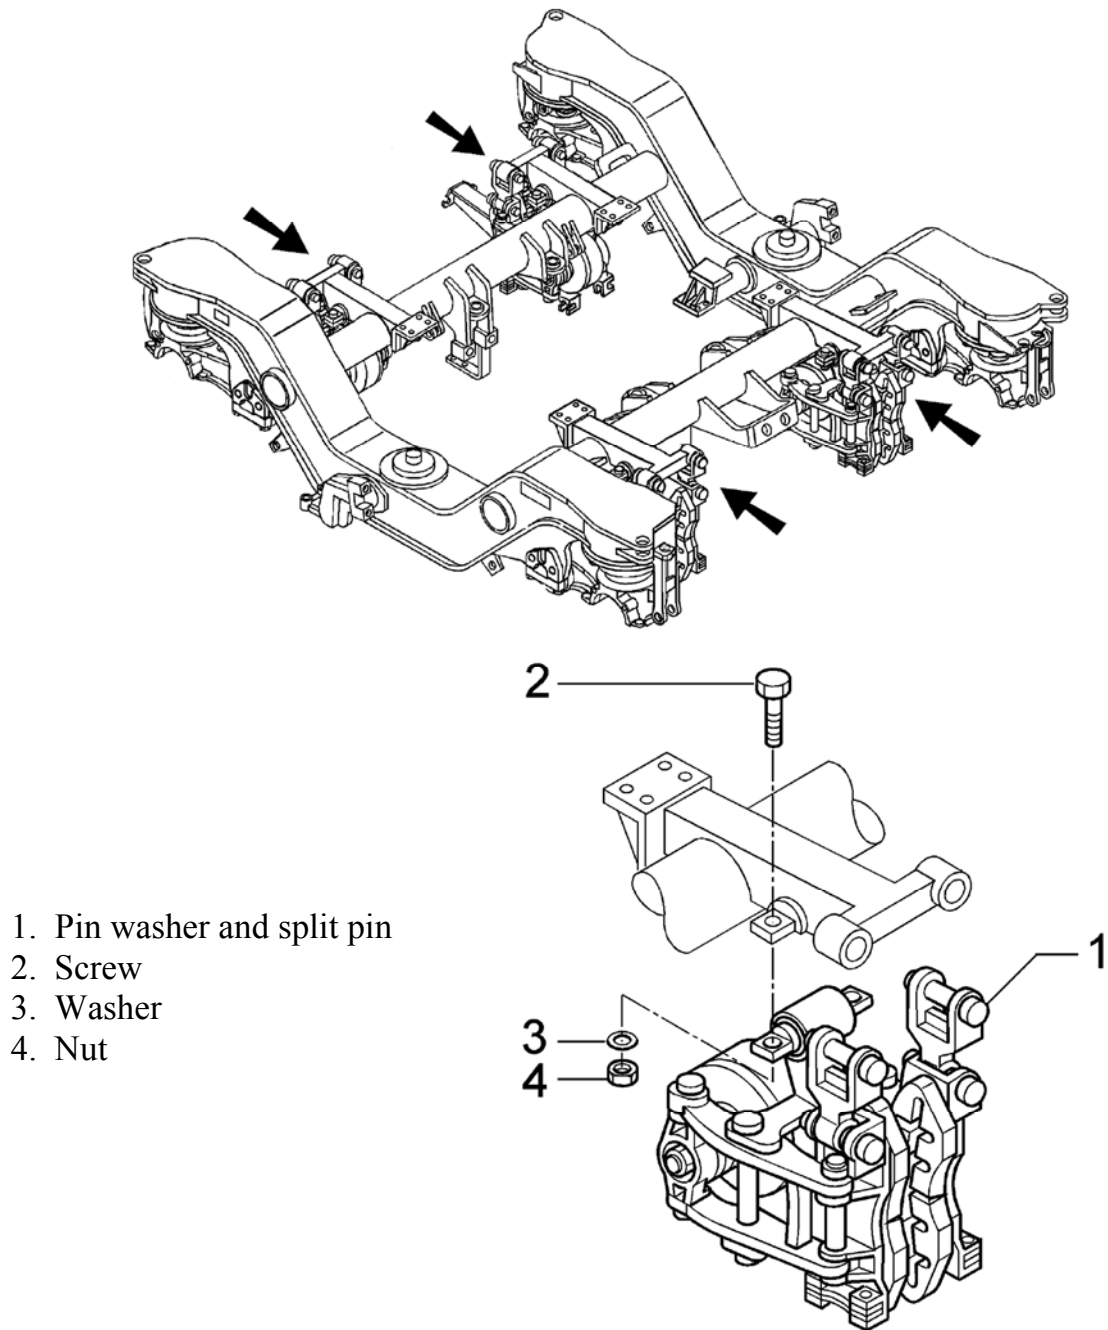

FIG. 4.42 BRAKE GROUPS REMOVAL
Remove the four brake units (FIG. 4-42) extracting the pin, washer and split pin (1), the screws (2), the washers (3) and the nuts (4). Pay attention not to let the units fall down.